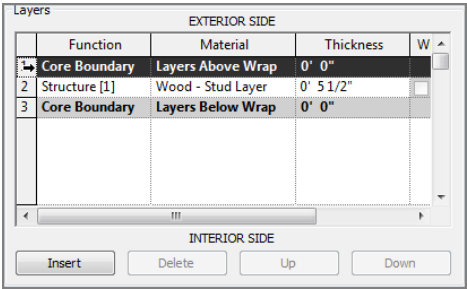

FIGURE 16.3: Clicking row 1 to highlight the entire row
As you can see in Figure 16.3, Revit understands the difference between interior and exterior. For the following procedure, you'll add materials to both the exterior and interior portion of the wall. Follow these steps:
1. In the Layers area, click the number 1, as shown in Figure 16.3. (It's the row that holds the Layers Above Wrap field.)